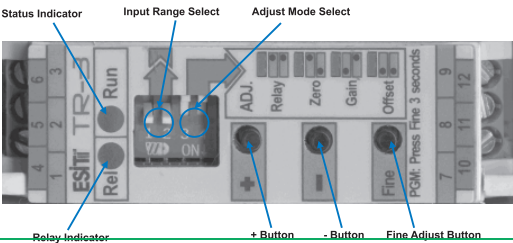

Figure 4 Location of indicators and switches
Step 1- Select input range: After the connections are made, first select the input range using the DIP switches (See Figure 4 and Figure 5).